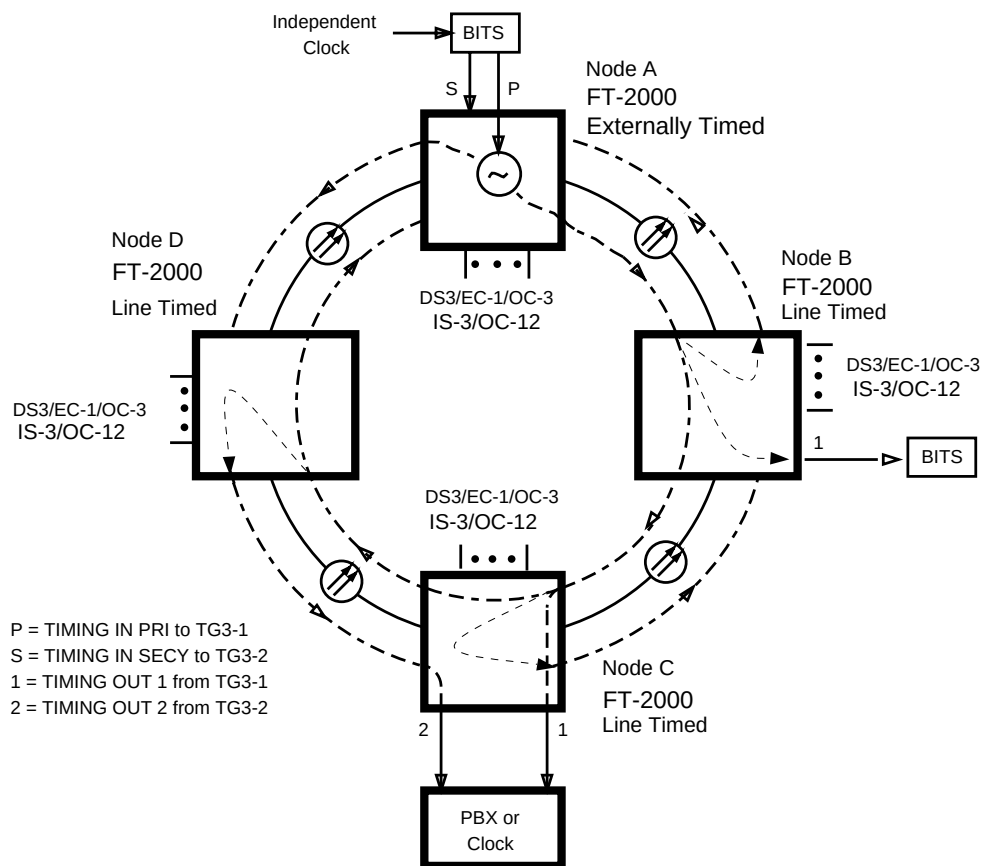

Figure 5-22. Example of a Ring Application with One Node Provisioned Externally Timed and All Other Nodes Provisioned Line Timed (With Two Timing Drops)
- **One node provisioned externally timed; all other nodes provisioned line timed.** In this configuration (Figure 5-22), any one or all nodes that are provisioned line timed can derive and distribute timing.